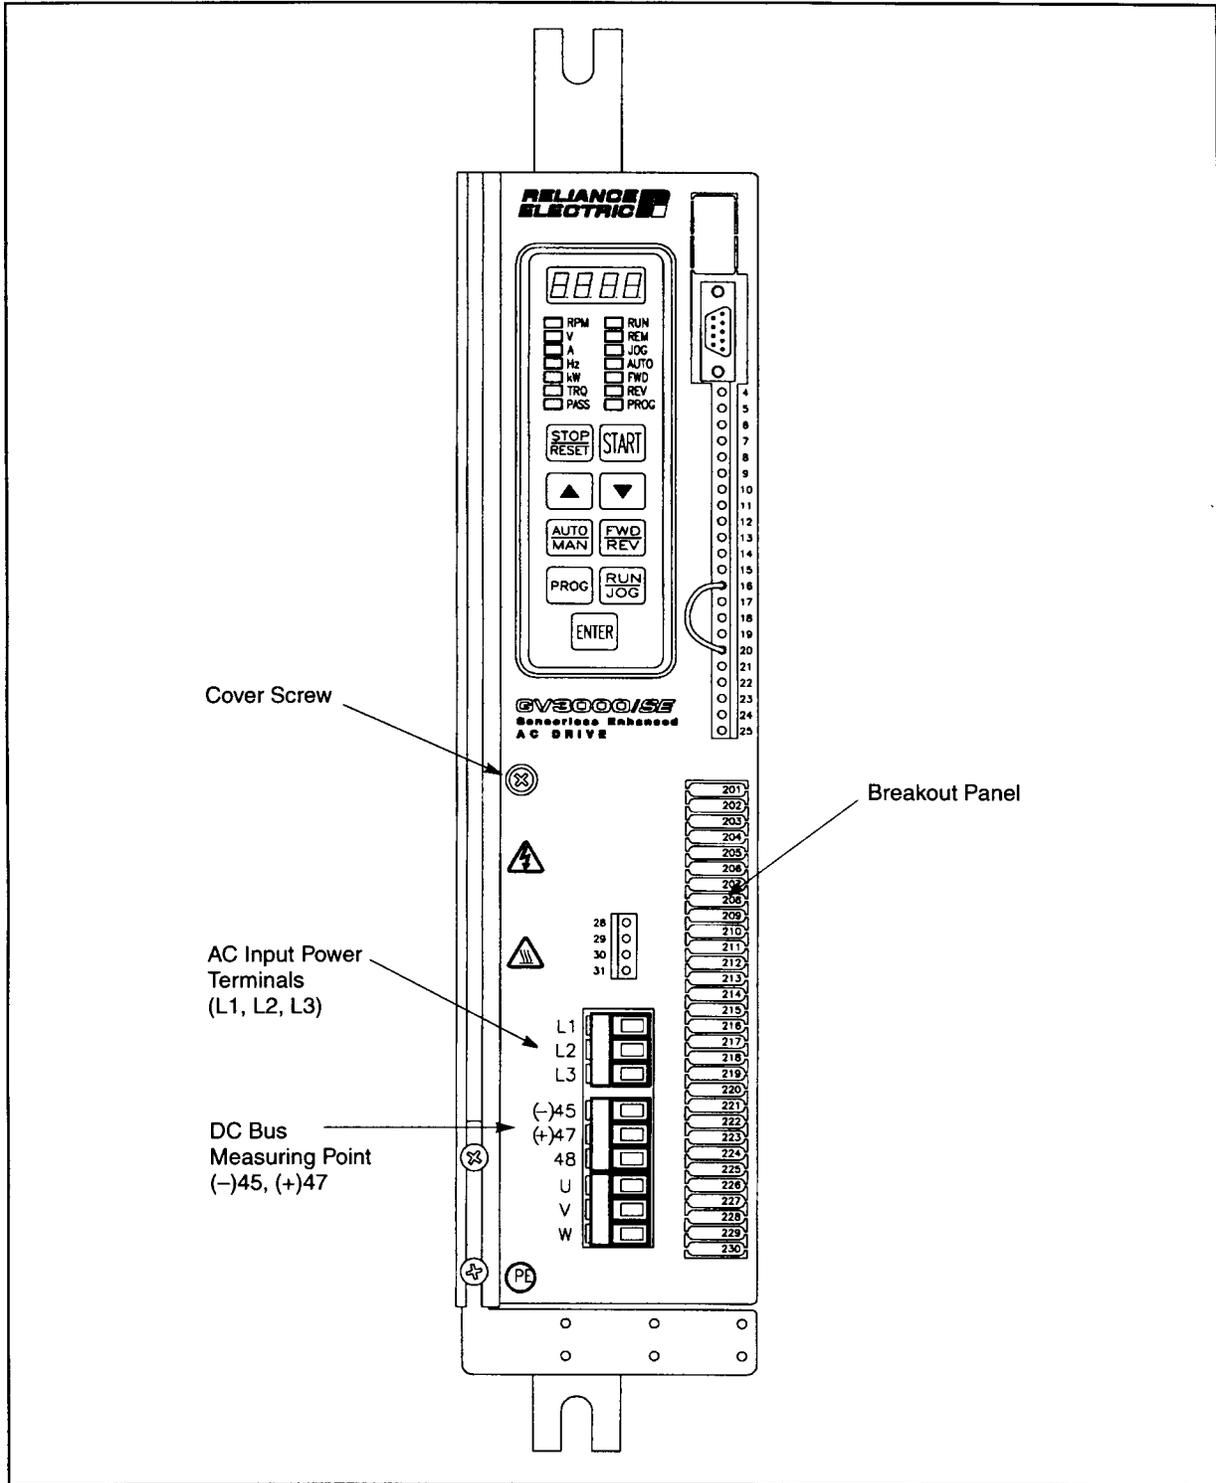

Figure 2.17 – 2 to 15 Amp Bookshelf Drive
- **2 to 15 A drives:** Remove the cover by removing the cover screw on the faceplate of the drive. See figure 2.17.
- a. Use a voltmeter to verify that there is no voltage at the drive's AC input power terminals (R/L1, S/L2, T/L3). Refer to figure 2.17 or 2.19 for the location of these terminals.
- b. Use a voltmeter to measure the DC bus potential at the DC bus power terminals ((û)45, (+)47) shown in figure 2.17 or 2.19.